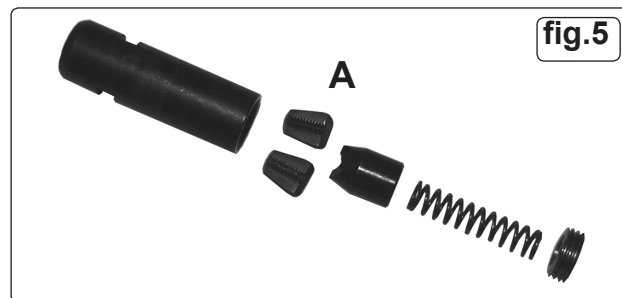

fig.5
- 6.2.2. Unscrew the jaw case assembly (fig.5) from the draw bar body (fig.2.F).
- 7.1.1. The jaw case assembly (fig.5) should be disassembled, cleaned and oiled at regular intervals, depending on the frequency of use. The need for either cleaning or jaw replacement (fig.5.A) will be indicated by the riveter failing to grip the rivet shaft.